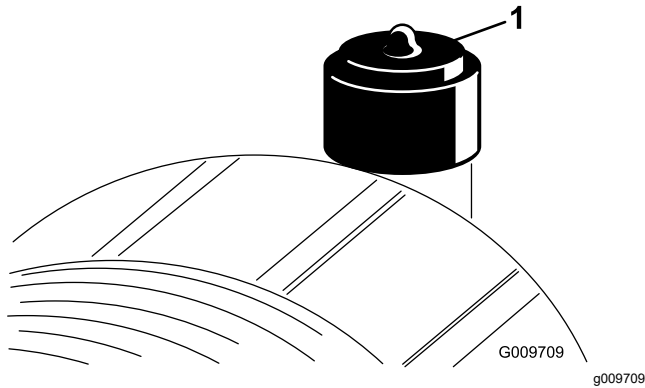

Figure 48
Service the air cleaner filter only when the service indicator (Figure 48) requires it. Changing the air filter before it is necessary only increases the chance of dirt entering the engine when the filter is removed.
6. Reset the indicator (Figure 48) if it shows red.